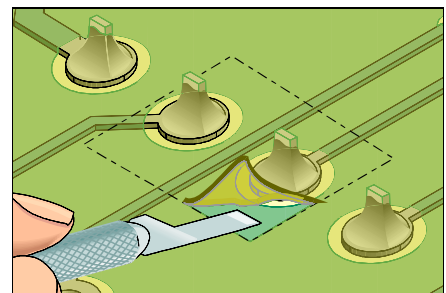

Figure 1: Slit and peel off coating using a knife or heated blade.
1. Slit and peel off the coating material with a dull knife or heated dull blade. (See Figure 1).